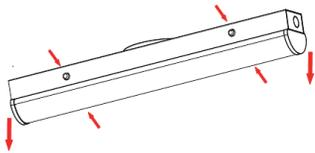

Fig. 31
1. Press the buttons on both sides to release the strip light cover (Fig. 31).